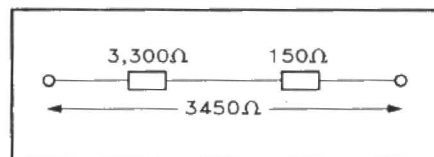

Figure 1
2) Now select a resistance value from the preferred list which when connected in *series* will just take the total value *above* the desired value. For example, if it is desired to make up a resistor of value 3425 Ω , first select the nearest preferred value. This, from the table below, is 3300 Ω . A preferred value resistor of 150 Ω , connected in series will increase the total resistance to 3450 Ω – just above the wanted 3425 Ω , see Figure 1.